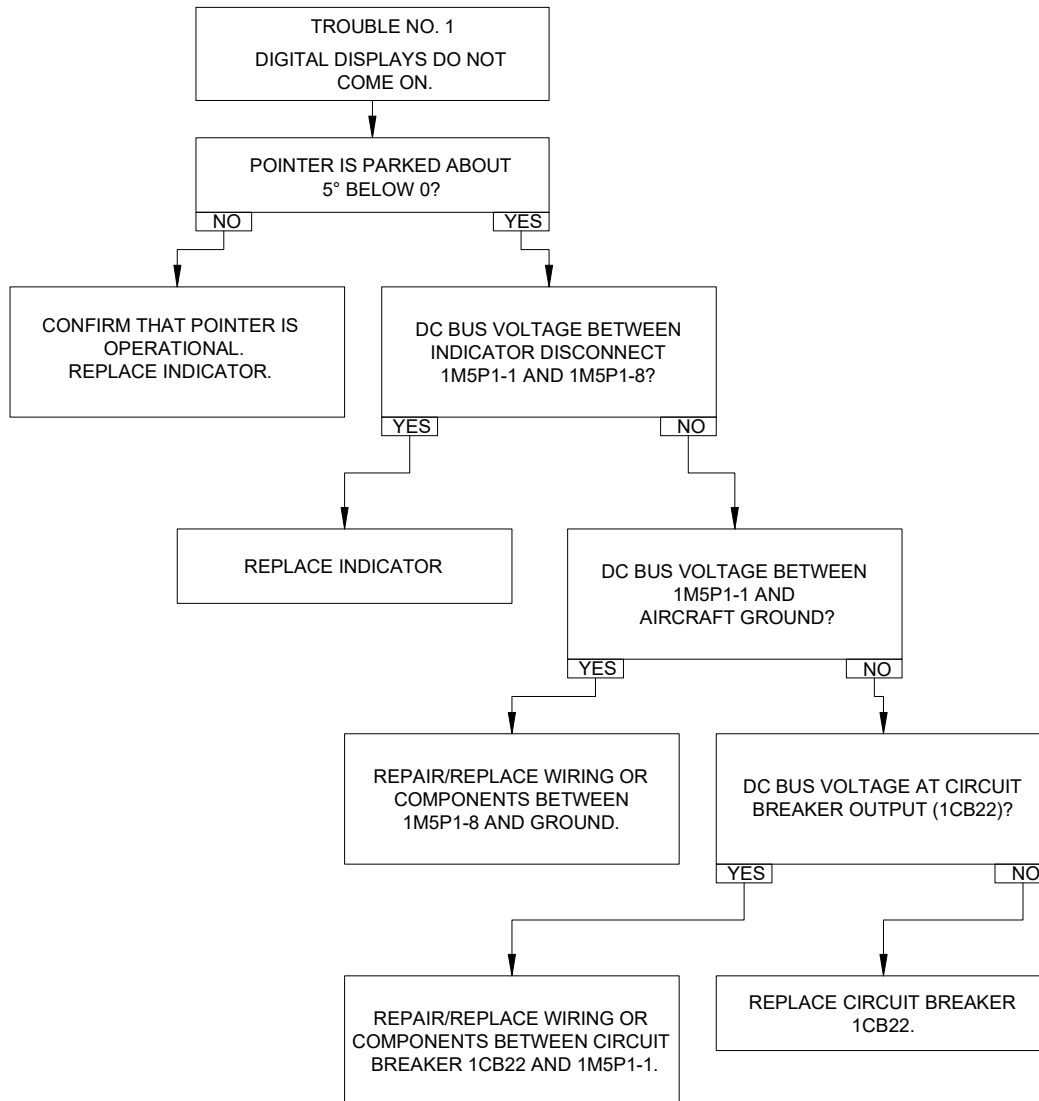

Figure 95-15: NG Indication System - Trouble No. 1
- If the digital displays do not come on, refer to Trouble No. 1 (Figure 95-15).